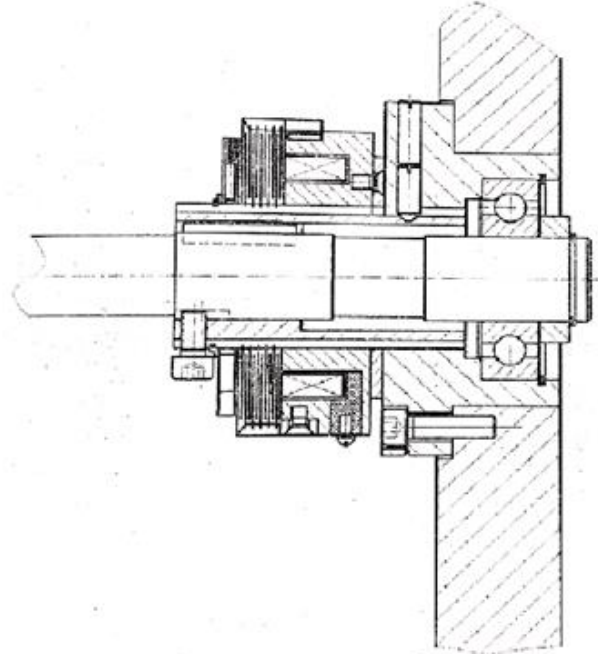

Fig 18
8.6 Adjustment of electromagnetic clutch (see Fig.18)